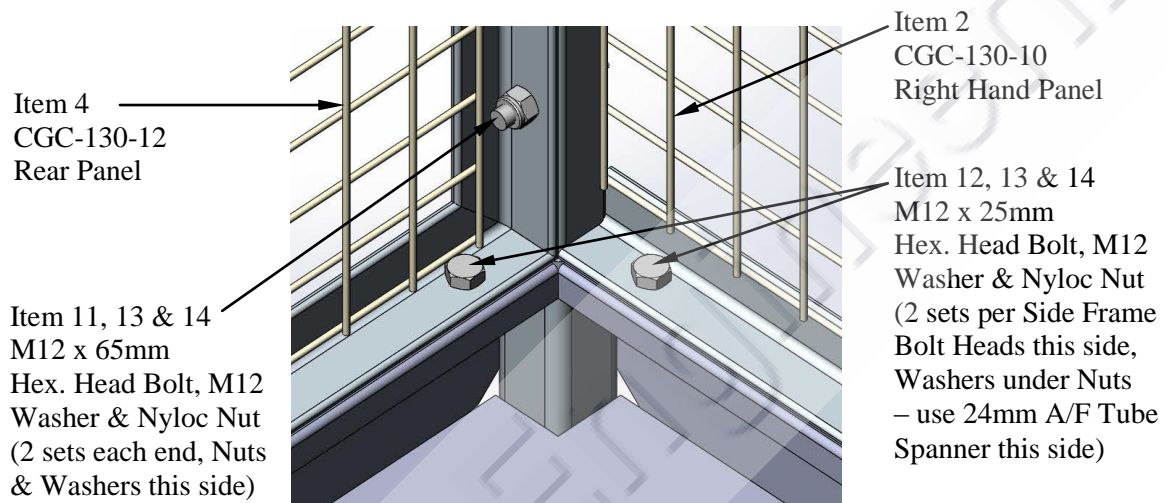

Figure 1.2
Loosely assemble the base of the Left Hand Panel (Item 3) with Base Assembly (Item 1) using (2) M12 x 25mm long Hex. Head Grade 8.8 Bolts (Item 12), M12 Flat Washers (Item 13) and M12 Nyloc Nuts (Item 14) with the bolt heads positioned on the top as shown in Figure 1.2.
Loosely assemble the base of the Right Hand Panel (Item 2) with Base Assembly (Item 1) using (2) M12 x 25mm long Hex. Head Grade 8.8 Bolts (Item 12), M12 Flat Washers (Item 13) and M12 Nyloc Nuts (Item 14) with the bolt heads positioned on the top as shown in Figure 1.2 below.
- E) Place the Rear Panel (Item 4) between both Side Panels orientated as shown in Figures 1.1 & 1.2 above, aligning the two holes each side with those on the Left Hand & Right Hand Panels, Loosely assemble together using four (4) M12 x 65mm long Hex. Head Grade 8.8 Bolts (Item 11), M12 Flat Washers (Item 13) and M12 Nyloc Nuts (Item 14) with the bolt heads positioned on the outside of the Cage as shown in Figure 1.2 above
Align (2) Holes on the Base Assembly (Item 1), Loosely assemble Item 4 & Item 1 together using two (2) M12 x 25mm long Hex. Head Grade 8.8 Bolts (Item 12), M12 Flat Washers (Item 13) and M12 Nyloc Nuts (Item 14) with the bolt heads positioned on the top as shown in Figure 1.2 above.